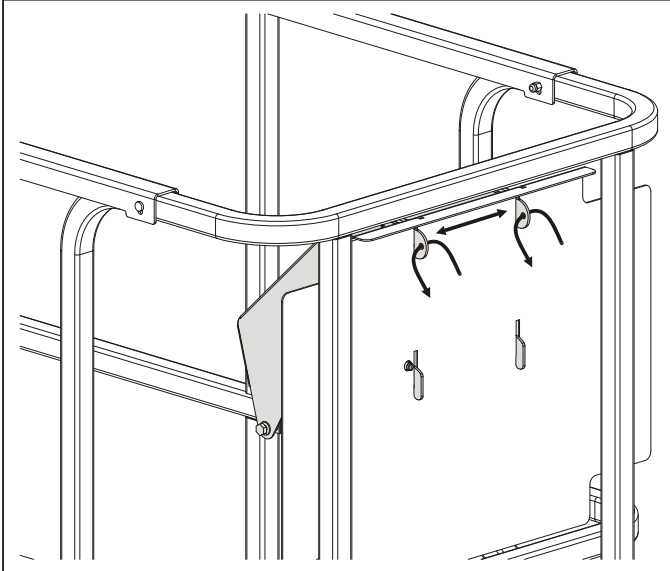

Figure 4-2. Securing Control Station to Platform
- 6. Turn the power selector switch to "Off" and remove the key to disable the machine and prevent unauthorized use. The platform control station can also be secured to it's mounting plate, see Figure 4-2.